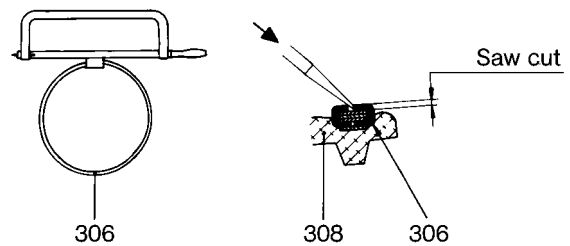

Fig. 2: Removal of the clamping band
- Remove hexagon nuts (607) and serrated lock washers (608) as well as hexagon head bolts (606).
- Pull suction casing (505) over the rotor (401). Make sure the precision machined rotor surface is not damaged when doing so.
- Remove suction casing gasket (501).
- Cut buckles on clamping bands (306) with a metal saw and press-out to both sides by means of a screw driver. Remove clamping bands (306) from cover sleeves (308). Please see Fig. 2.